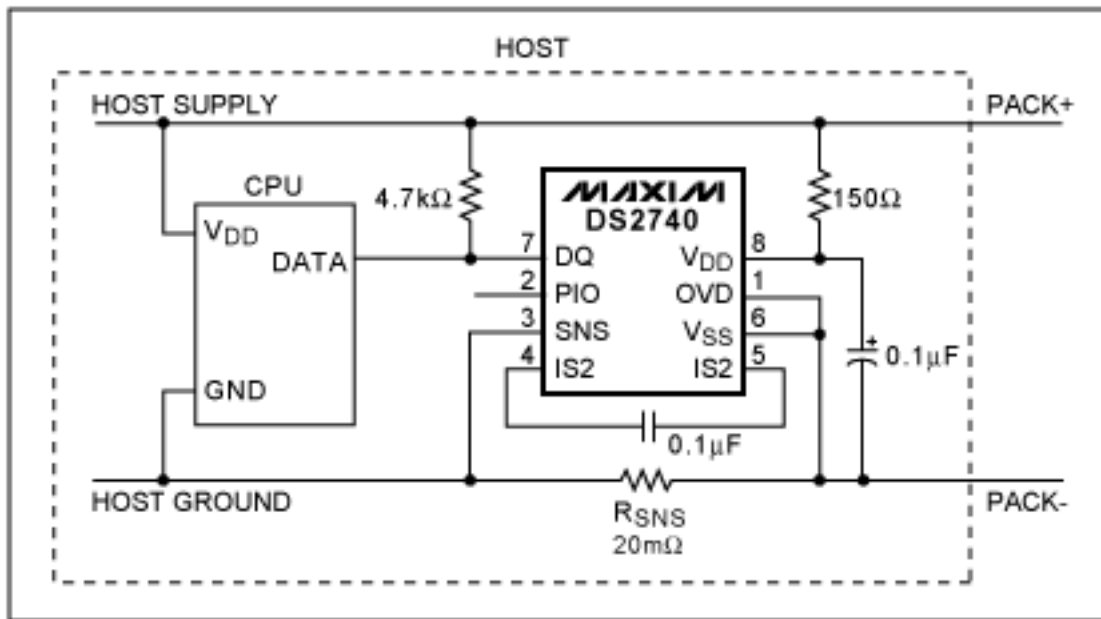

Figure 1. DS2740 installed in the host system.
The schematic in **Figure 1** illustrates a possible solution for using the DS2740 in the host system of a cell phone or personal digital assistant. The circuit shows both the DS2740 and host system being powered by an external battery pack. The pack could be a single-cell Lithium or triple-cell Nickel composition. The PACK+ and PACK- terminals represent the connection to the external battery pack. The 150 Ω resistor from PACK+ to V_{DD} of the DS2740 is for ESD immunity. The resistor helps limit current spikes into the part, and protect against over-voltage conditions. The other passive component on the V_{DD} line is the 0.1 μ F capacitor. This capacitor helps to filter voltage spikes and keep the voltage within the specified 2.7V to 5.5V range.
The CPU data pin in Figure 1 is an open drain driver similar to the Data I/O (DQ) pin of the DS2740. The DATA and DQ pins are directly connected together, and a 4.7kΩ pullup resistor is used to pull the data line to a logic high. The DS2740 1-Wire bus speed control (OVD) pin is connected to V_{SS} indicating standard 1-Wire timing protocol. For overdrive timing, the OVD pin should be tied to the V_{DD} pin of the part. To monitor the voltage across the sense resistor (R_{SNS}), the SNS pin is connected to the host side of R_{SNS} and V_{SS} is connected to the cell side. The current-sense input pins (IS1 and IS2) are connected to either end of a 0.1μF capacitor. This capacitor and the internal resistors provide a low pass filter for current spikes. The device ground, V_{SS}, must always be connected to the negative terminal of the battery cell. The last pin, PIO, is an open-drain, general-purpose input/output driver, and is left floating in Figure 1. PIO is not necessary for proper device functionality, but usable options include driving an LED or vibrator.